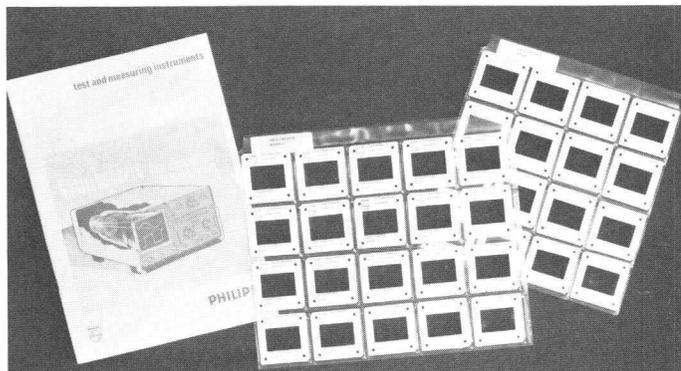

Fig. 2
2. 'Oscilloscopes Series 2 Dual Channel and Delayed Sweep' (Fig. 2)